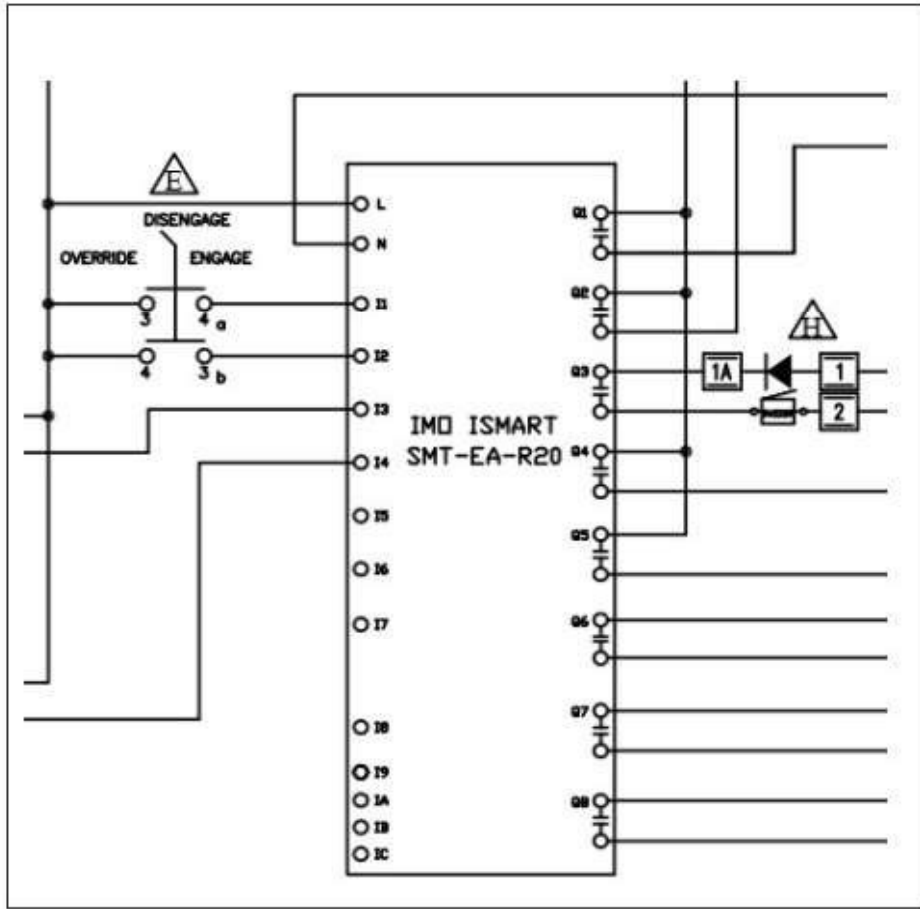

Figure 46A: PLC I/O Connections
- h. Check if the inputs I-1 on the PLC screen is highlighted. If not, connections going in the terminal needs to be checked. (See Figure 46A and 46B on page 42).
- i. Check if the output Q2 gets highlighted (See Figure 46A and 46B on page 42).